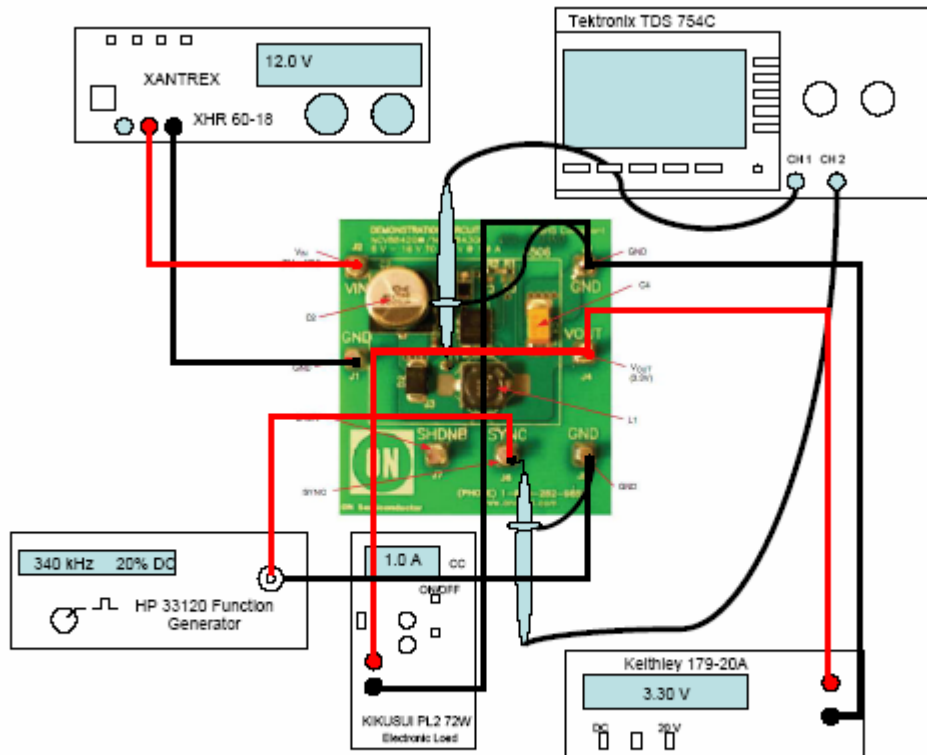

Figure 1: Test Setup
1. Connect the test setup as shown in Figure 1, but with the function generator disconnected.
3. Disable the generator's output and connect it to J5 and ground (J8) (see Figure 1).